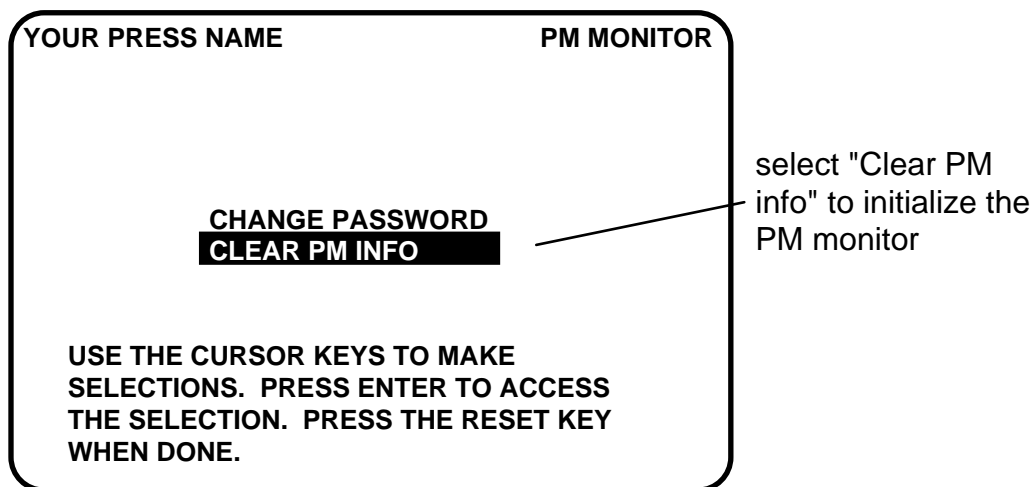

Figure A-5. Initialize PM screen
3. To do this, press **F6** which is labeled "Init". It is at this screen ("Initialize PM" - see Figure A-5) where you can also change your password. Proceed to the section "Assigning a new PM password number" to change your password (skip "Initializing the PM Monitor" altogether). Once you have done that, you can use the PM Monitor.
2. You will see the "Initialize PM" screen (Figure A-5). Select "Change Password".